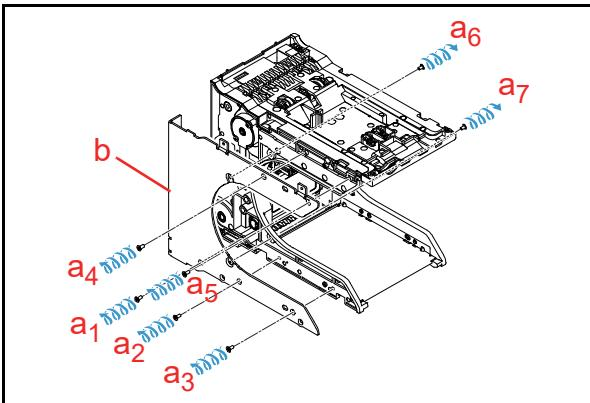

**Figure 4-50 Quad Board Removal 2**
3. Slightly lift up the Quad Board (Figure 4-50 a) to unplug the four (4) Connectors (Figure 4-50 b1 through b4) as illustrated by each Arrows.